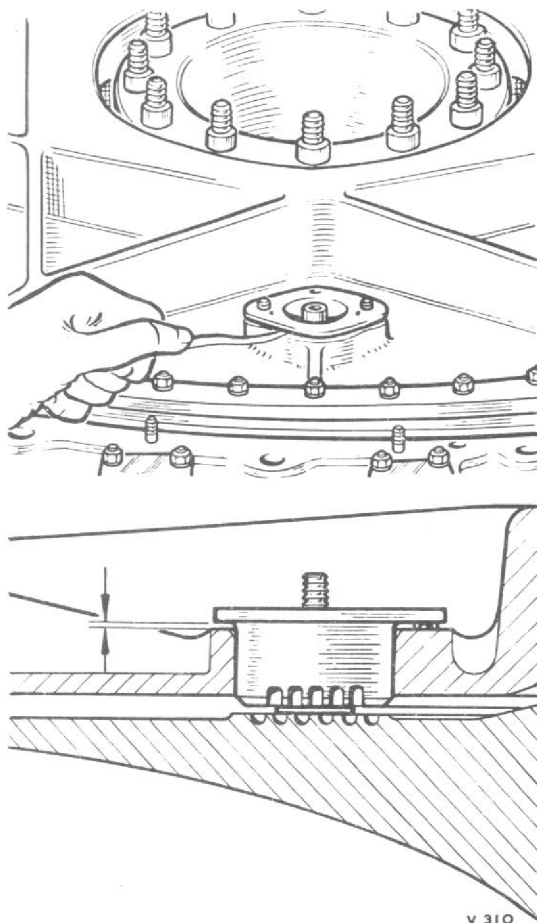

Fig. 9. Using feeler gauges to measure the clearance between the inspection cover flange and sealing plate
- (2) Push the cover into its aperture in the sealing plate.
- (3) Hold the cover down and using feeler gauges check the clearance round the cover flange (fig. 9).
- (4) Subtract the feeler gauge reading from the slip gauge size to obtain the labyrinth clearance.
- (5) Check that the clearance is within the limits.
- (6) Repeat this check for the other two positions.